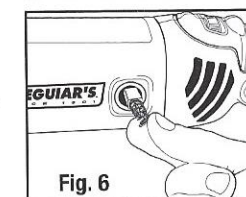

Fig. 6
2. Gently pull out **brush (Fig. 6)**.